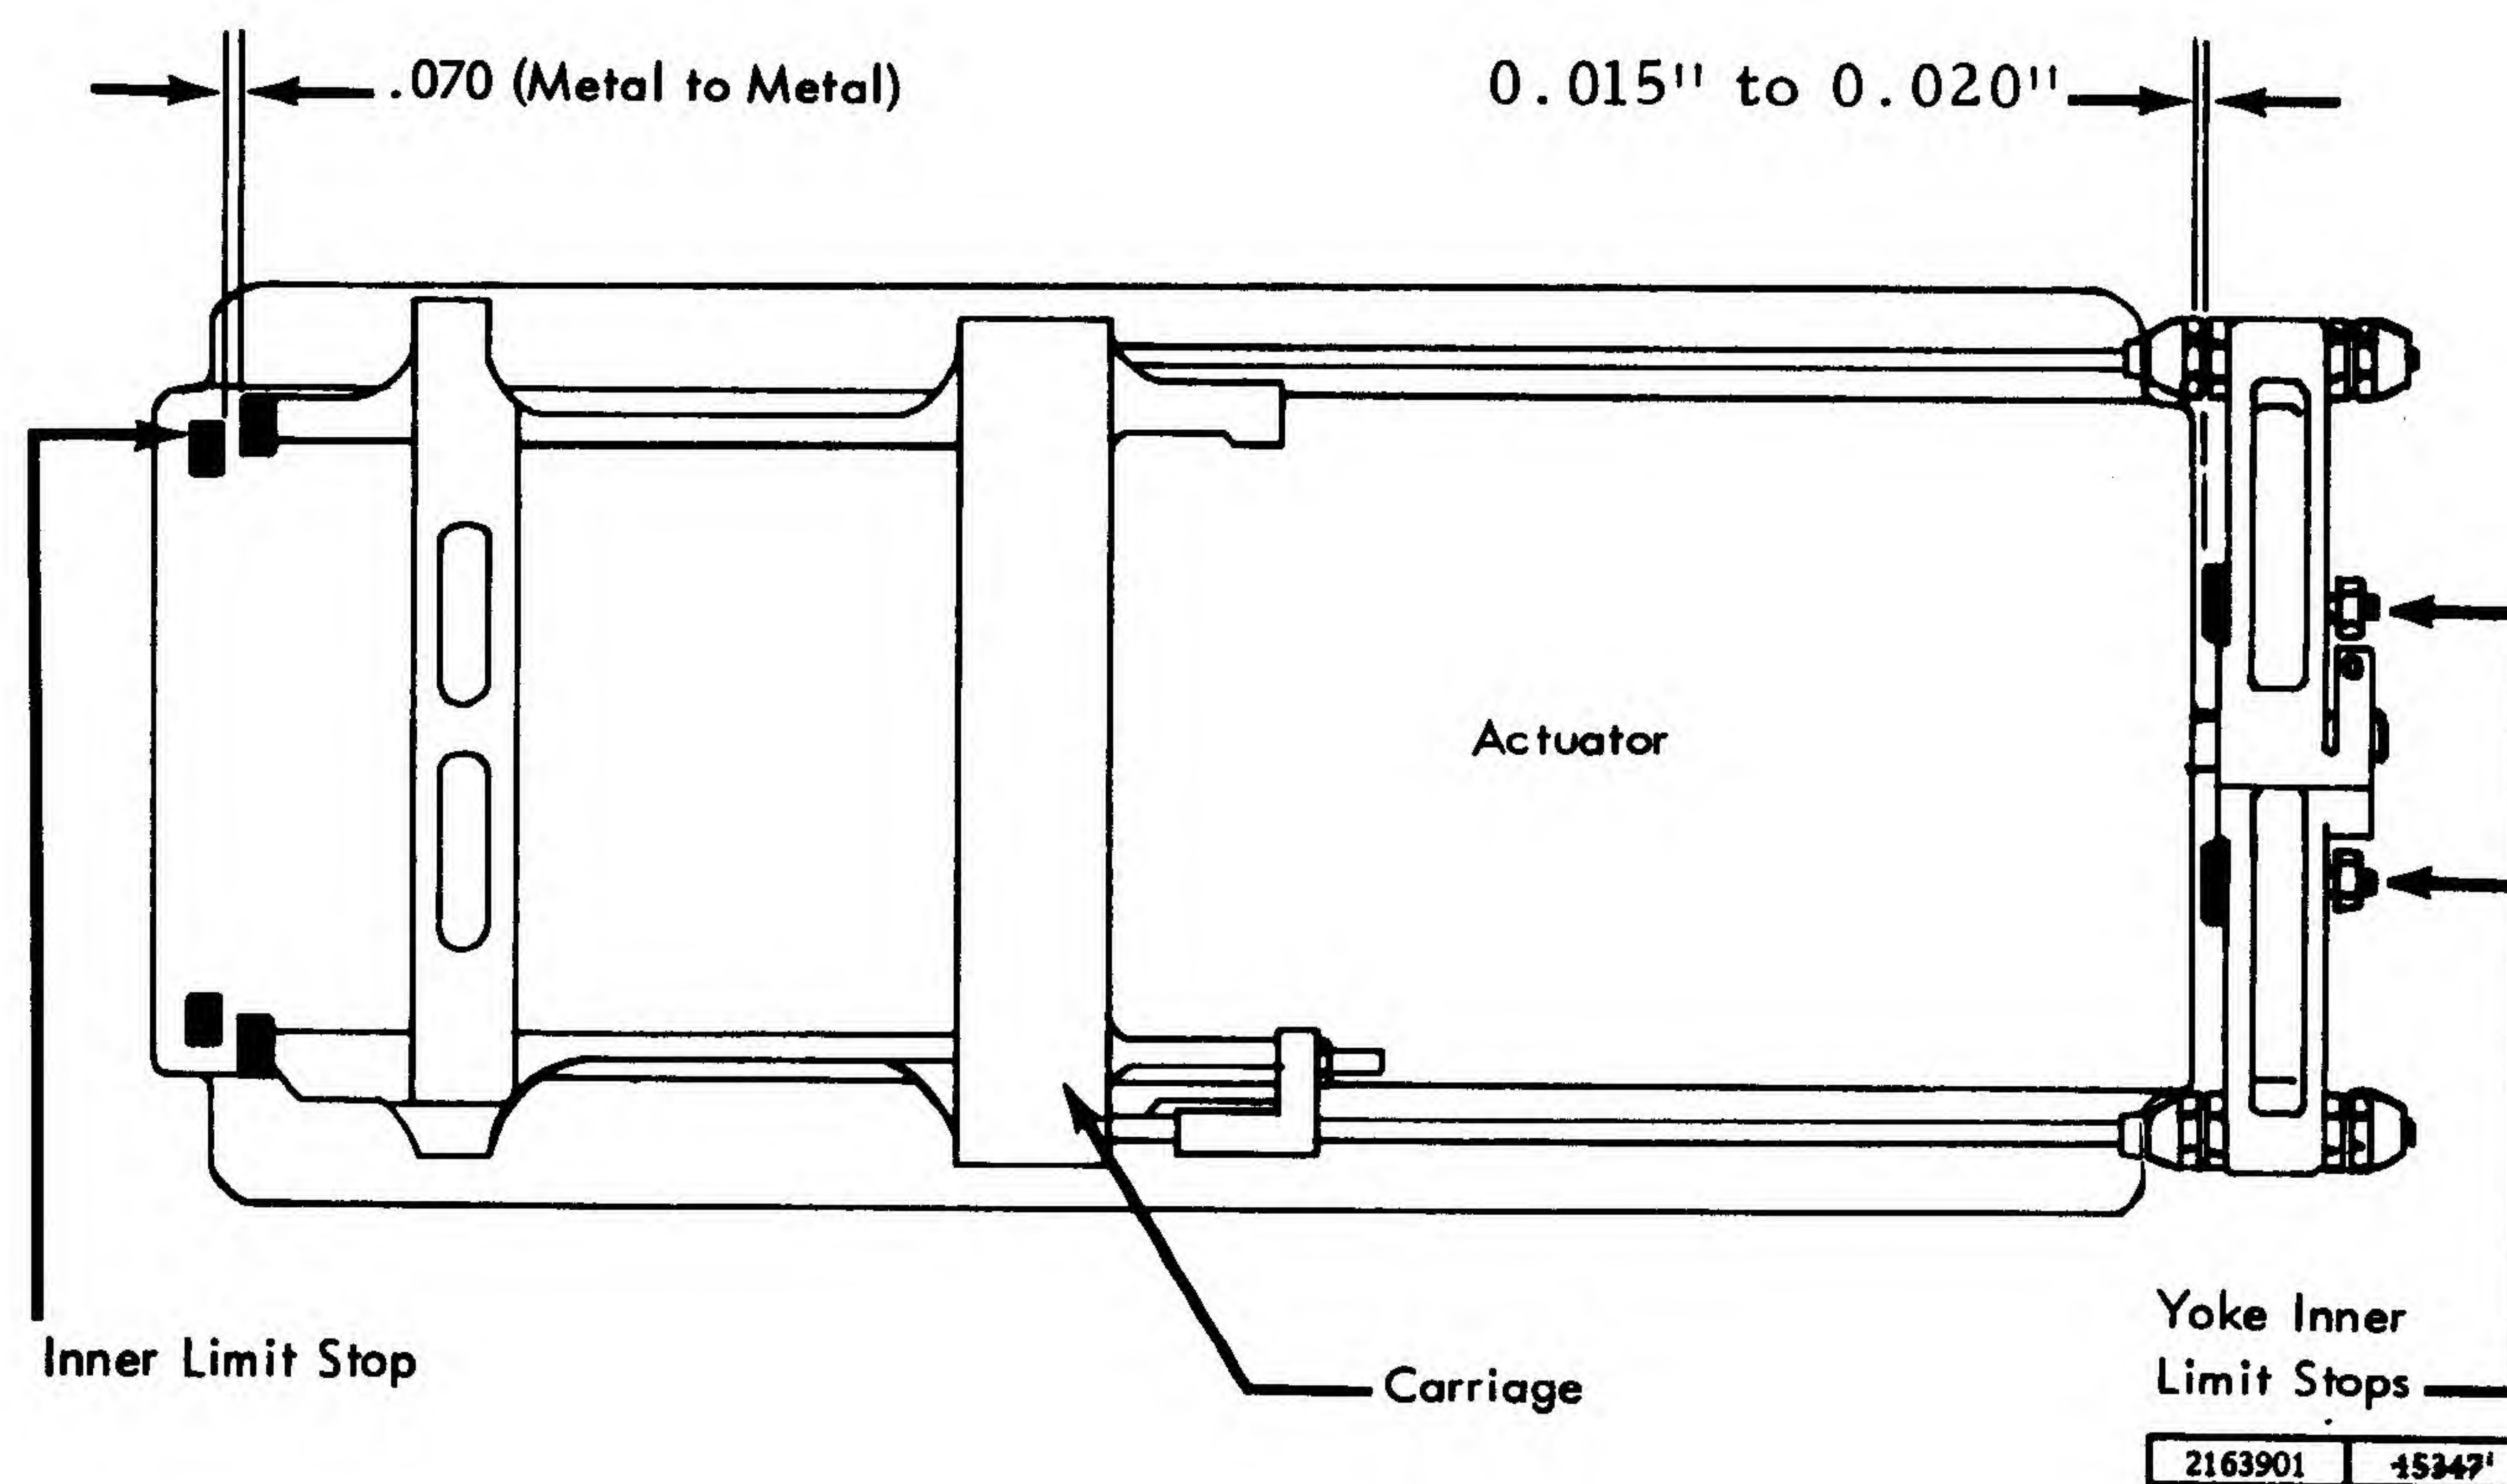

Figure 3-41 Yoke Inner Limit Stop Adjustment
3.4.1.3 Yoke Inner Limit Stops (Figure 3-41)